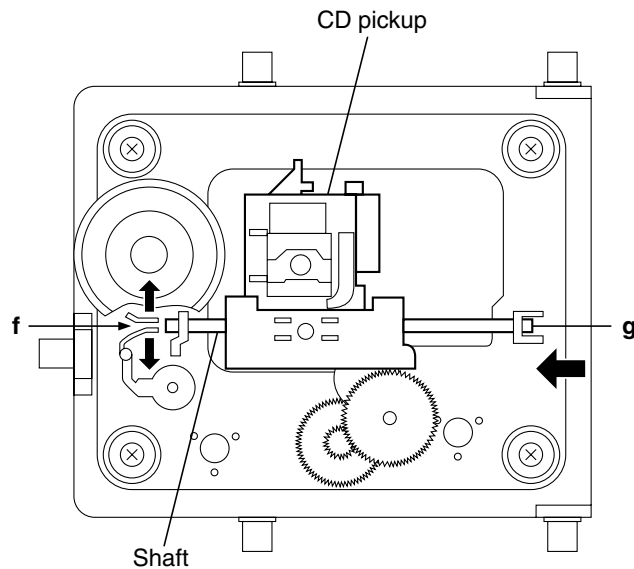

Fig.16
■ Removing the CD pickup (See Fig.16)